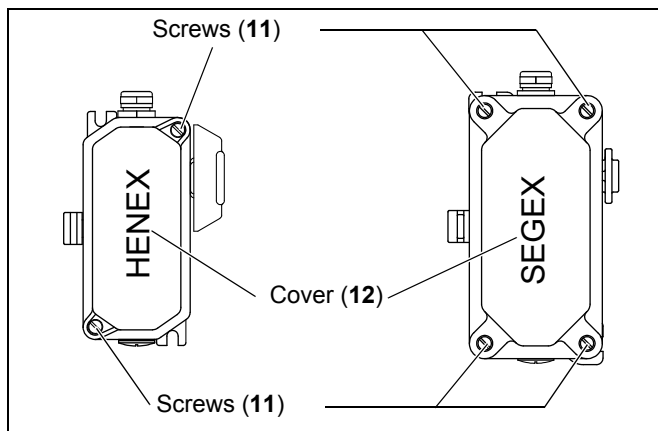

Fig. 5-10: Removing the cover
2. Open the cover (12) of the pull-rope emergency stop switch by releasing the two or four screws (11) (see *fig. 5-10*).
7. Check the gaskets of the cover (12) for damage.
8. Close the cover (12) of the pull-rope emergency stop switch.
9. Secure the cover (12) with the screws (11) (see fig. 5-10).
4. Open the cover (12) by loosening the screws (11) (see fig. 5-10).
5. Remove the screwed cable gland (17).
6. Disconnect all electrical connections and pull the cables out of the screwed cable gland (17).
7. Unscrew both screws that fasten the pull-rope emergency stop switch to the conveyor system through the slotted holes and remove the device (see fig. 5-10).